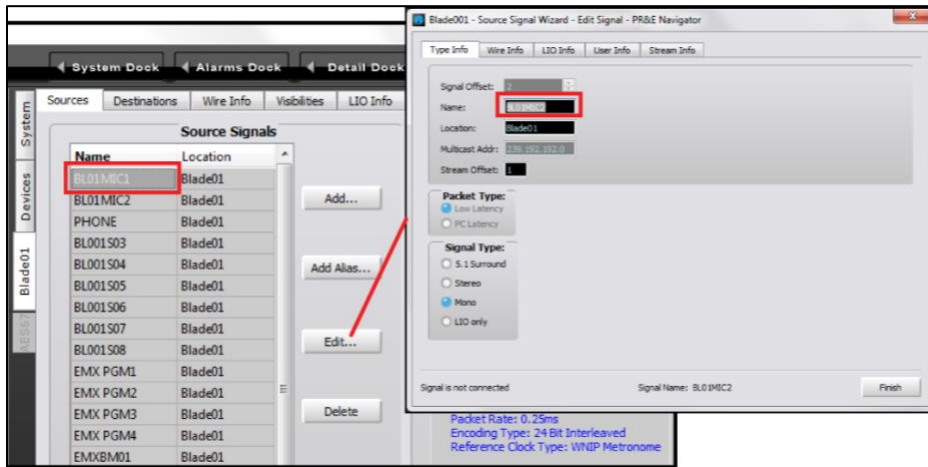
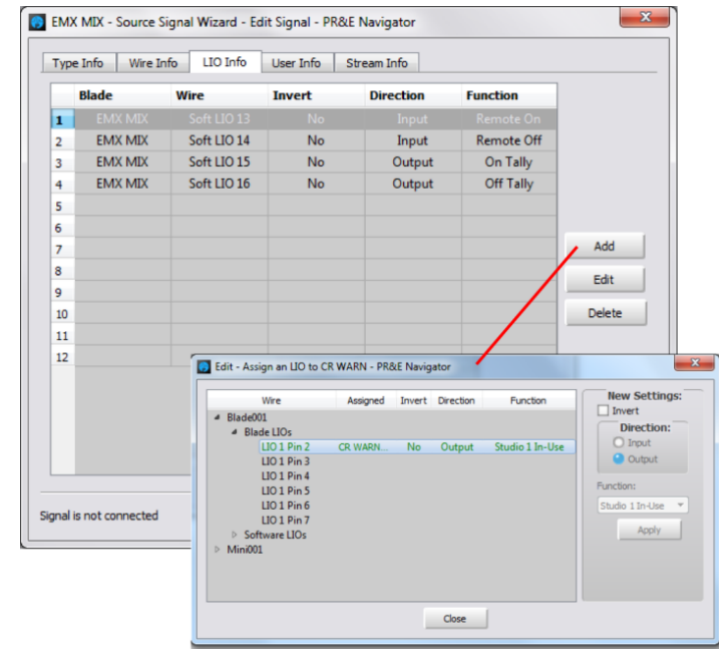

Figure 3-21 Editing a Signal Name
Figure 3-23 Logic Assignment tab
Inputs and other source signals are edited using the **Sources tab**. To view that tab, click on the Blade icon in the **System Dock** then click the **Sources tab**. To edit a signal name, double-click on the name in the **Source Signals** section of the tab to highlight it, then type in a new name of up to eight characters. You can alternately click once on the name then click *Edit...* to open the **Signal Edit** window and edit the name in that window. Both edit locations are shown with red outlines in Figure 3-21.
On the I/O Blades, if two mono sources, like a pair of phone hybrids or a phone hybrid and a codec, are connected to the “left” and “right” channels of one RJ45 jack, that default stereo input or output will need to be split into two unrelated mono signals by selecting the stereo signal and clicking *Edit...*, then changing the **Signal Type** radio button from Stereo to Mono, as shown in Figure 3-21. This removes the right channel and adds it to the **Free Resources pane**, where the *Audio In Mono (0)* number will increment by one indicating there’s now a Free Resource available to add a new mono signal. Click *Finish* to close the Edit window.
Highlight the left channel mono signal, then click *Edit...* to open the edit window (Figure 3-21). Change the **Signal Type** selection from *Mono* to *Stereo*. You can then edit the name for the new stereo device connected to that input in the **Name** entry box then click *Finish* to close the Edit Window and update the system.
Note: A source or destination signal that’s connected in the Crosspoint grid cannot be edited, so whenever you open the **Signal Edit** window (Figure 3-21) look in the edit window’s lower left corner to verify *Signal is not connected* is shown. If *Signal is connected* is shown you can’t make changes, other than editing its name, until all crosspoints for that signal are removed.
Logic can be associated with an audio signal, or it can be setup as an LIO-only signal, which is covered in the next section on Logic-Only Signals. Logic commands are assigned using the **LIO Info Tab** in the **Edit Signal** window (Figure 3-23). When the logic is associated with an audio signal, like a microphone and a local mic control panel, then the audio signal is selected/highlighted in the Sources list, then click *Edit...* to open the **Edit Signal** window (the process shown in Figure 3-21 on page 26). Click the **LIO Info tab** to view, or add, edit, or delete logic settings associated with that audio signal.
The LIO Info tab (Figure 3-23) shows the logic settings that were assigned for a WNIP Talent Station (TS). Two logic input signals carry Remote On and Remote Off commands from the TS, while two logic return, or output, signals carry the On and Off Tally commands to light up the On and Off button LEDs on the TS. In this case these signals are assigned to Soft LIOs (SLIOs) since the Talent Station is a WNIP device. If the panel is an old school hard-wired panel, then the Remote on/off and tally signals would be assigned to four pins on an LIO connector.
To add logic commands to a new audio signal, the LIO Info tab will be empty so click *Add* to open the **Assign an LIO** window, also shown in Figure 3-23. This window is where one Blade's LIO or SLIO (expand Software LIOs to show) is selected and then assigned a logic command.
Finally, select the logic **Function** from the drop-down list of standard and User functions. In the case of the CR WARN logic shown in Figure 3-23 the Direction is Output and the Function is Studio 1 In-Use. There are also 500 User logic commands available, simply numbered User 1 – User 500. They can be used to send a command from a Source to a Destination by assigning an LIO Input and an LIO Output with the same User Function.
Click the **LIO Info** tab to open the **Logic Assignments** window, shown in Figure 3-23. On a new logic-only signal, click *Add...* to open the **Assign an LIO** window, also shown in Figure 3-23. The first open logic pin is highlighted but you can click on any unused row to change the pin selection. In the example, we want to setup output logic for a Control Room warning command. In this case the **Direction:** is *Output* and the **Function:**, selected from the drop-down menu items, will be *Studio 1 In-Use* (assuming Mute Studio 1 is for your Control Room). Click *Apply* to set that logic command. If additional Studio In-Use commands will be used (LXE has eight Studio In-Use commands), you could add those commands to this LIO-Only Destination. Once you've set up all your studio mutes,